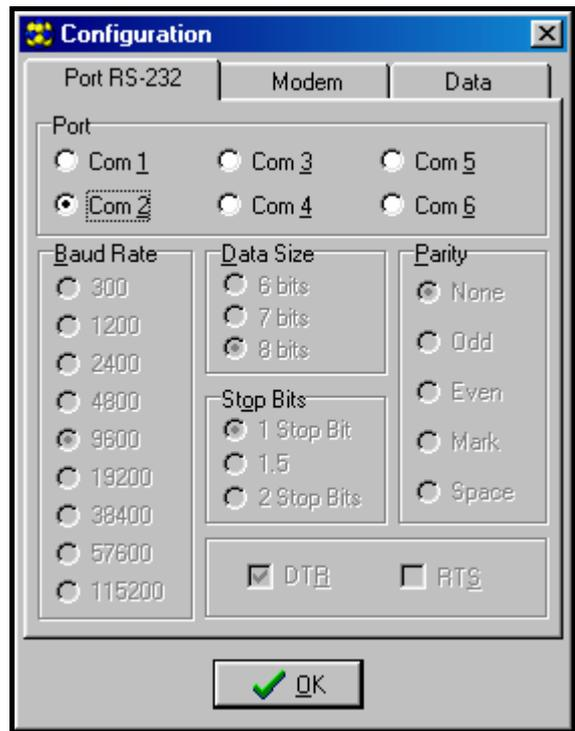

Figure 9.
2. Enter the options of module communication settings by clicking on the  icon (or through the **Communication**→**Configuration** menu) and select the port through which the computer connects with the module RS-232 port (see figure 9).